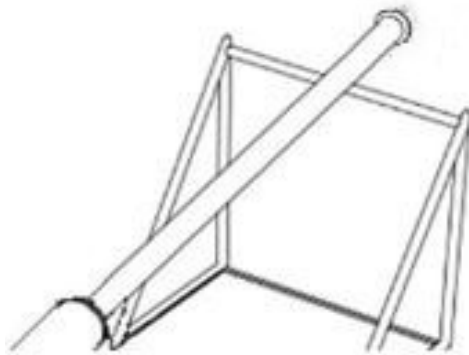

Figure 3
1. A reinforcing side brace should be installed (e.g., to provide additional structural stability, support wind load resistance, and dampen vibrations). (see Figure 3).